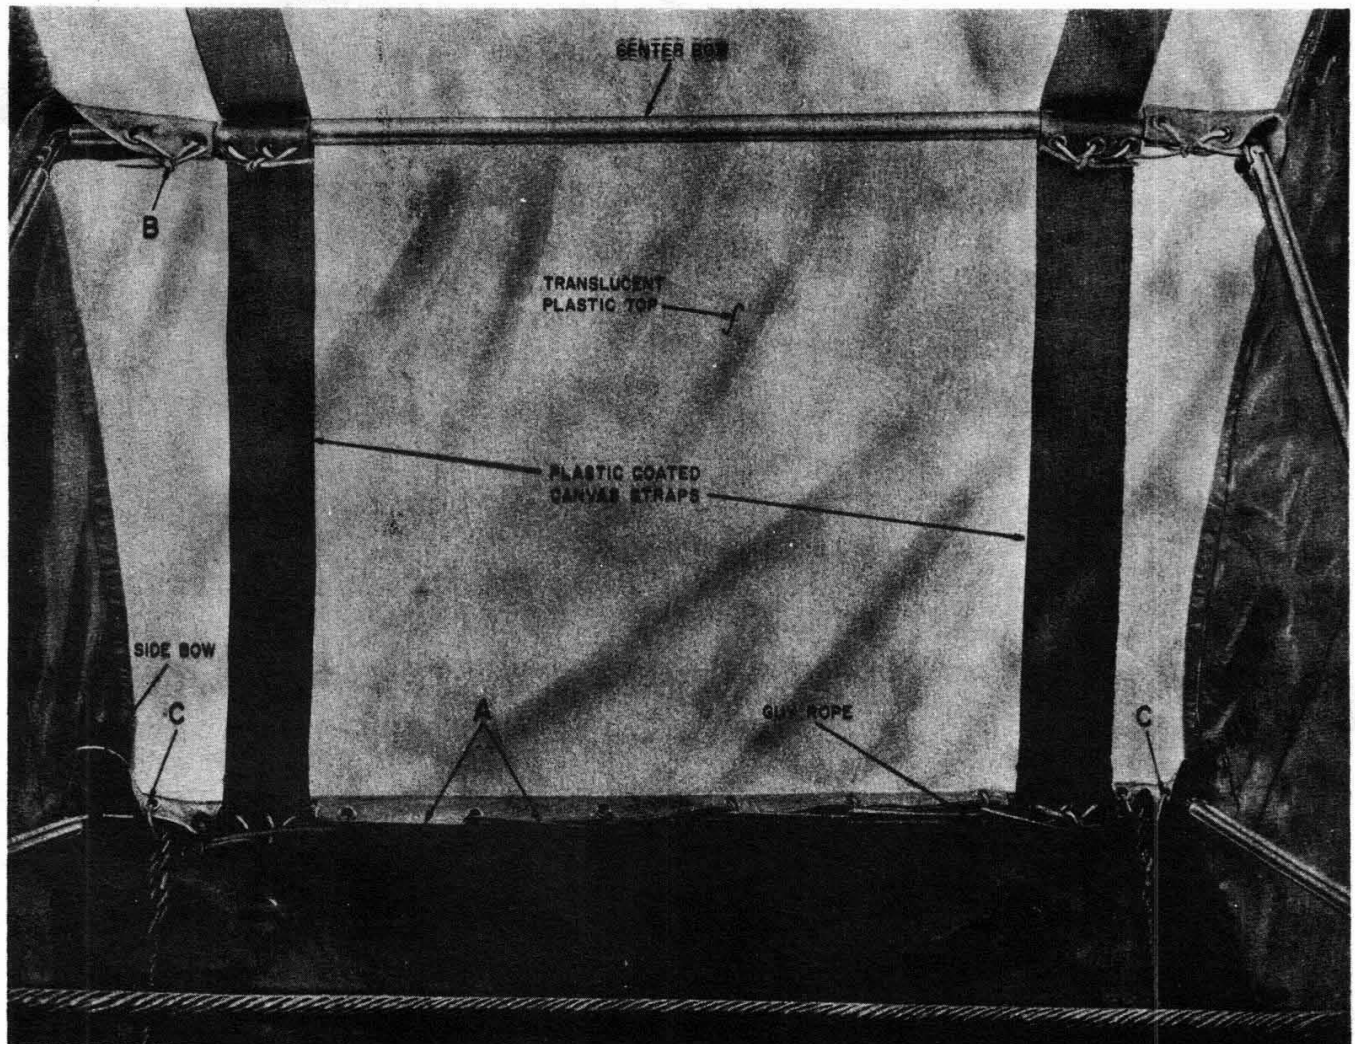

Fig. 14—Method of Lacing Cover and Straps to Bows
2.08 Two plastic-coated canvas straps are attached to the bows to minimize strain on the tent cover as shown in Fig. 14.
- (b) Lace the two tabs around the center bow. (Fig. 14—B).
- (c) On each side bow, lace the two tabs and the seam with a piece of rope 5 feet long. (Fig. 14—A and —C).
7.03 To install new plastic coated canvas straps, lace each strap to each of the three bows. A piece of lacing rope approximately two feet long is required for each lacing. (Fig. 14).